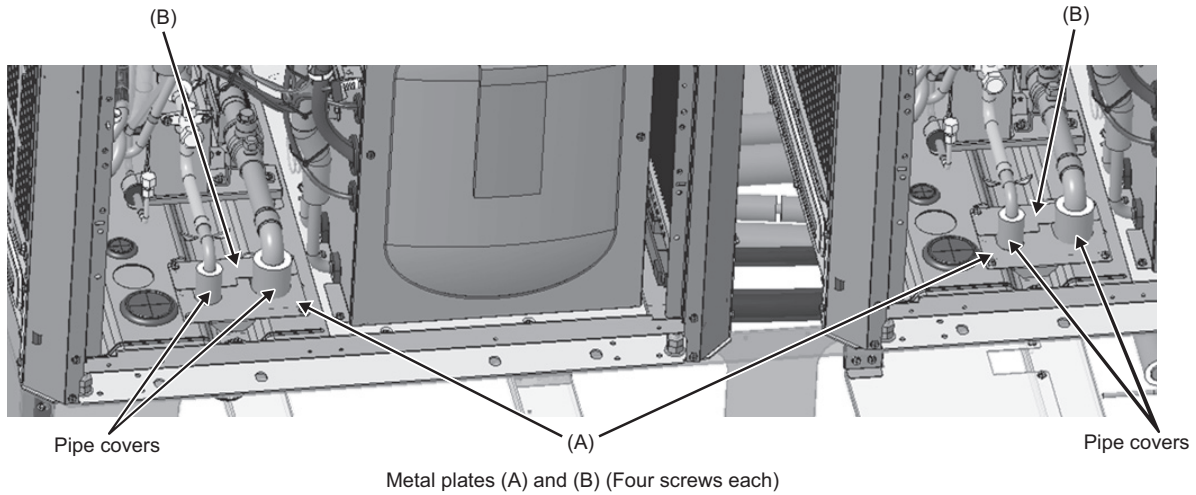
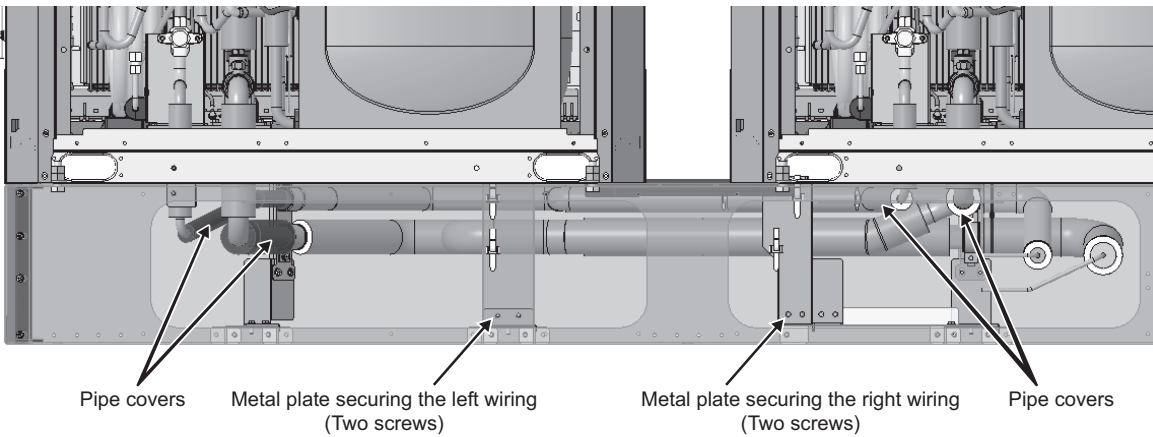

Fig. 1
Fig. 2
(1) Remove the metal plates and pipe covers. (Fig. 1 and Fig. 2)